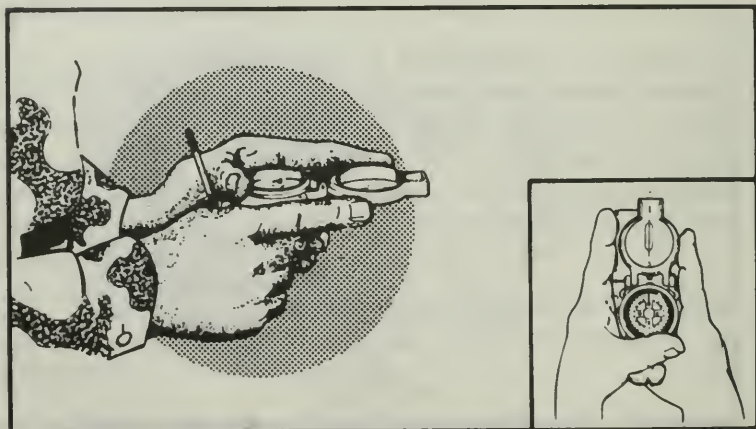

Figure 38. Center-hold method.
(2) Center-hold method (Figure 38). To use this method: